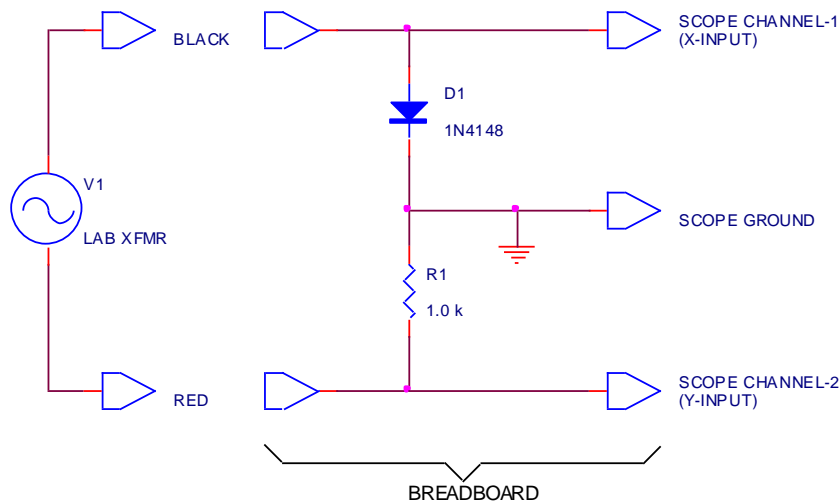

Figure E1.4
**Set-Up** Use the following parts to construct the circuit of Fig. E1.4 below:
Connect the black (+6.3 VAC) output from the lab transformer and the 10× probe from Ch-1 (x-input) of the oscilloscope to the anode of the diode. Connect the red (-6.3 VAC) output from the lab transformer and the 10× probe from Ch-2 (y-input) of the oscilloscope to R1, as shown in Fig. E1.4. The ground leads from both oscilloscope probes should be connected to the junction between D1 and R1. Configure the oscilloscope to display an X-Y plot of Ch-1 versus Ch-2, with the Ch-2 input amplifier set to invert the signal. Set both oscilloscope input couplings to GND, center the dot in the exact middle of the oscilloscope screen, and return the input couplings on both channels to DC. Set the range selector for Ch-1 to 0.1 V/div and the range selector for Ch-2 to 0.5 V/div. With a value of  $R1 = 1\text{ k}\Omega$  and 10× probes, this sets the horizontal scale to 1.0 V/div and the vertical scale to 5 mA/div. (This is the same set-up as described in Procedure 3.)